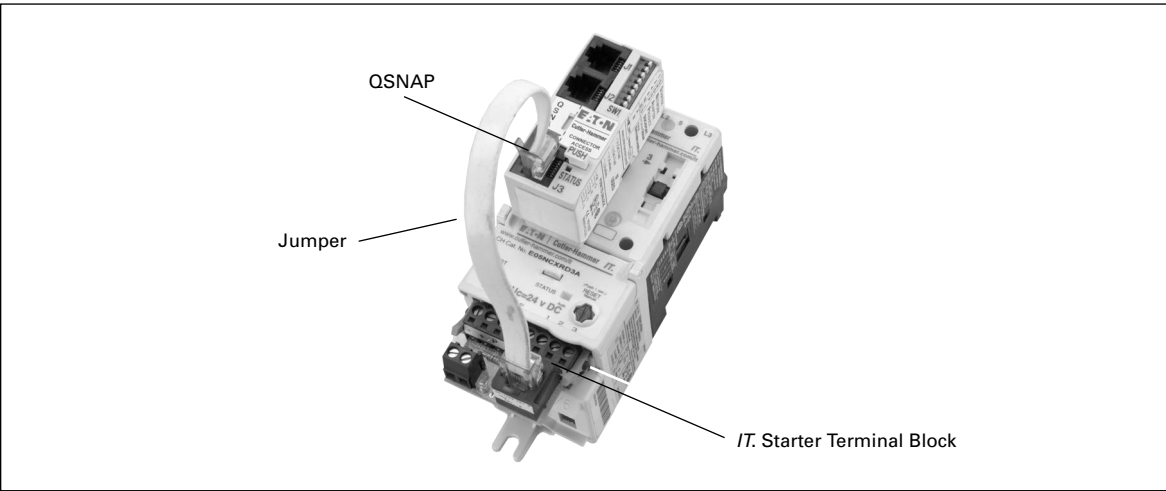

Figure 10: Jumper Installation
1. Once the jumper is wired, insert the terminal block into the overload and the RJ-45 connector into J3 on the QSNAP as illustrated in **Figure 10: Jumper Installation**.